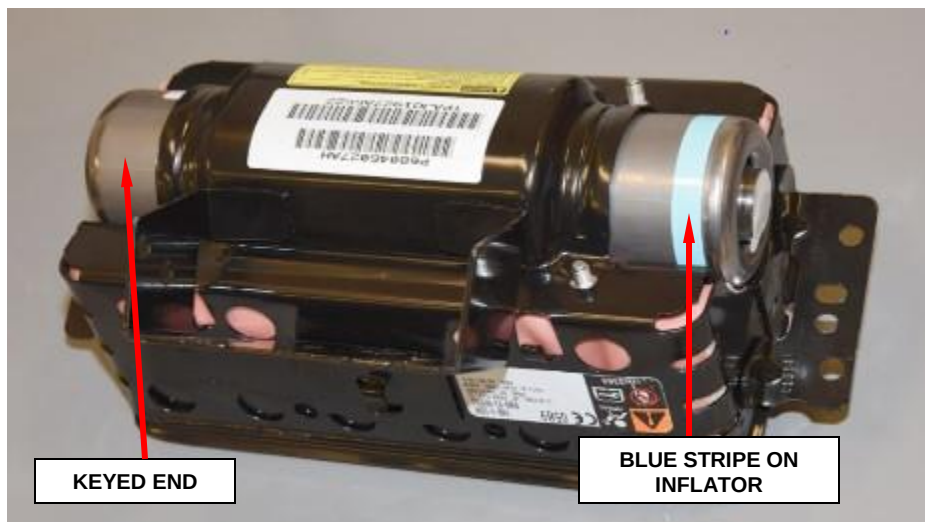

Figure 103 – Insert Inflator (Shown with Cushion Installed)
- h. Remove airbag cushion from housing by applying pressure to the bolts, set cushion aside (Figure 103).